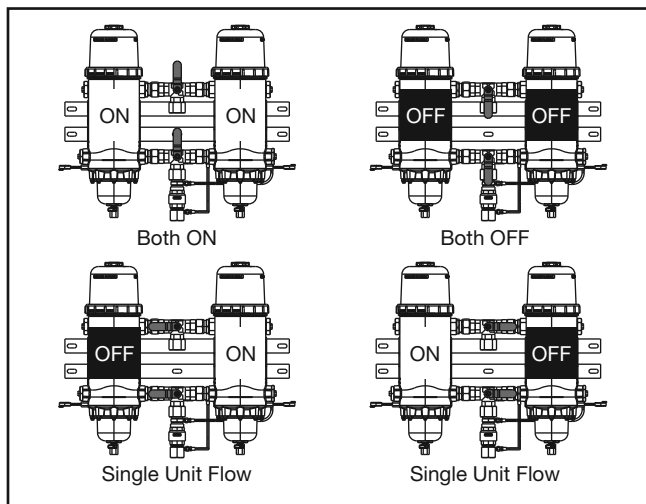

Figure 9 – Valve Operation
1. For single unit flow, rotate both valve handles either to the left or right, depending on which unit is being used. Point the handle toward the unit you want to isolate. See Figure 9.
2. For dual flow, rotate the valve 180° from the shutoff position. See Figure 9.
3. To shut off flow, rotate the valve handle 180° from the dual flow position. See Figure 9.
- a. Rotate both valve handles into the Dual Mode position (Both ON) until fuel is flowing through both units. See Figure 9.
- b. Rotate both handles to isolate the unit that requires the filter change. The handles should now point to this unit. See Figure 9.
- b. Rotate both valve handles to isolate either the left or right unit. The Duplex unit is now in Dual mode. See Figure 9.
- d. After the filter change procedure is complete for this unit, rotate both valve handles into the Dual Mode position (Both ON) until fuel is flowing through both units. See Figure 9.
- e. Rotate both valve handles to isolate the other unit that requires filter change. The valve handles should now point to this unit. See Figure 9.